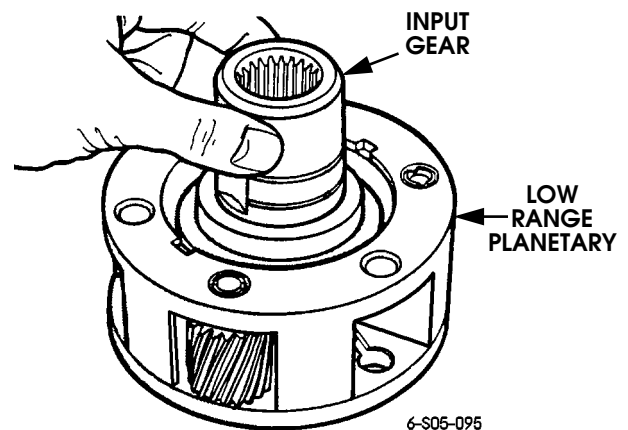

Figure 5-132: Input Gear Installation
- b. Install rear thrust washer in planetary. Be sure washer tabs are aligned in planetary notches as shown (Figure 5-132)